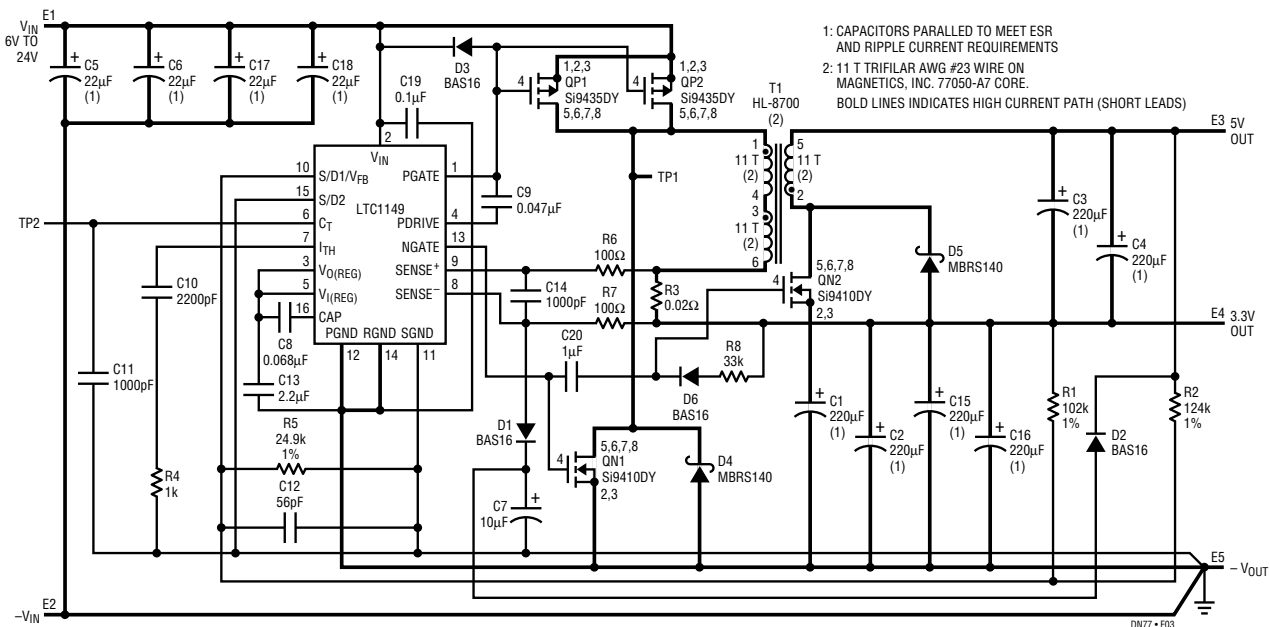

Figure 3. Single LTC1149 Provides 3.3V and 5V in SMT
The schematic diagram is given in Figure 3. For the principles of operation, please refer to DN72 (copies are available from any LTC representative). One significant difference between this circuit and that of DN72 is that QN2's gate drive is AC-coupled, ensuring full enhancement of QN2 even at low input voltages. The circuit as shown operates down to $V_{IN} = 7V$. Adding two 220 μF capacitors in parallel with C3/C4 extends minimum V_{IN} to 6V or less.
The circuit of Figure 3 is the result of a significant R&D effort by LTC, providing a 3.3V/5V power solution combining performance and price benefits with manufacturability and reliability. At the same time the circuit flexible enough to accommodate a number of variations. Some of these are:
1. Figure 3 shows several ground lines. These should be run separately (single point ground). Heavy line widths in the schematic indicate wide power and ground traces on the PC board.